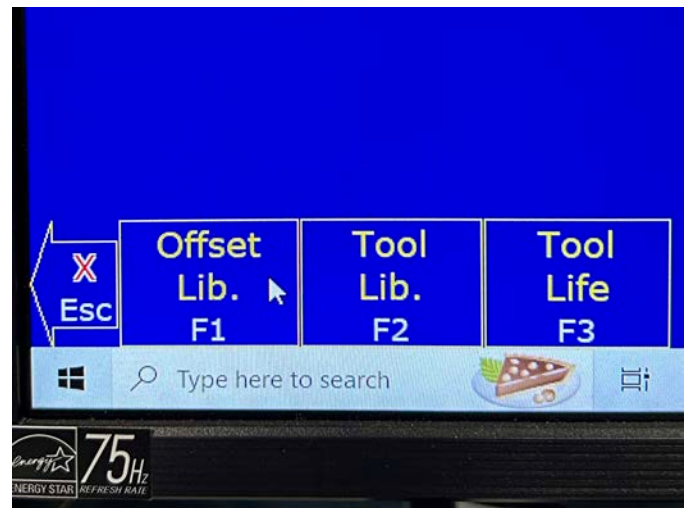

FIGURE 31
7. Click on Offset Lib. F1 (see Figure 31).